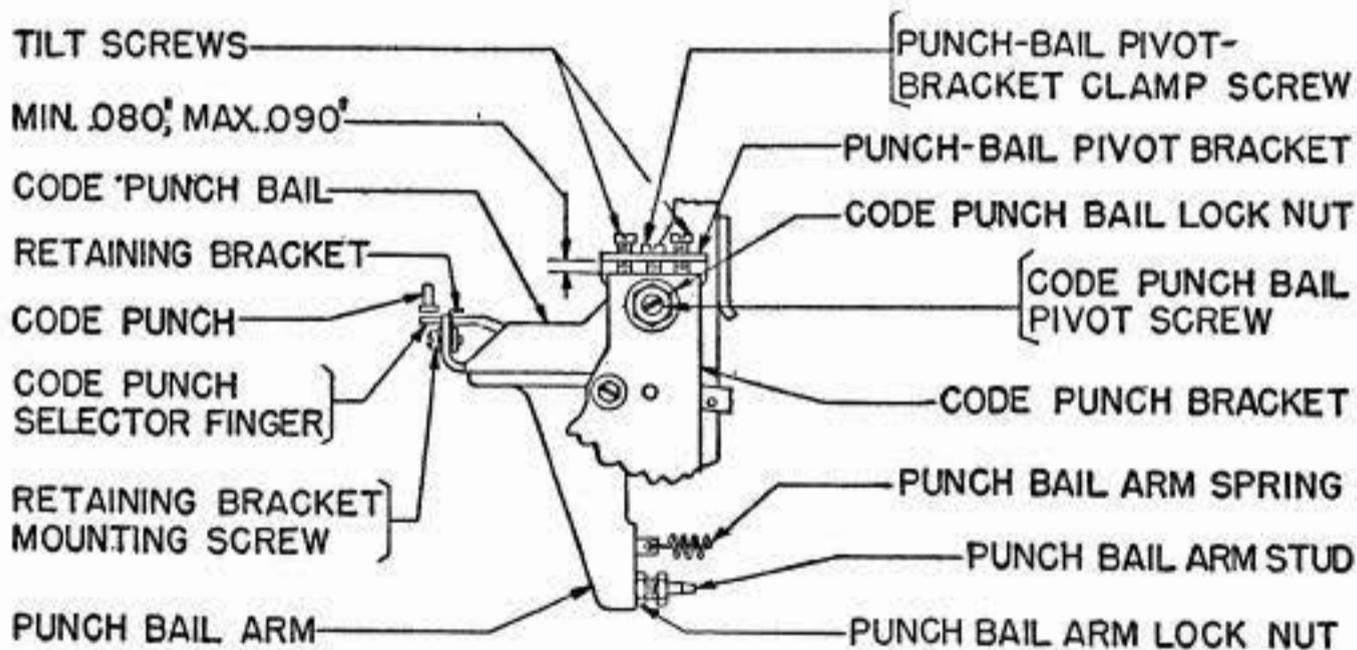

Fig. 36
The lower surface of the punch-bail-pivot bracket should be Min .080", Max .090" above and parallel to the surface of the code-punch bracket on which it mounts. **Fig. 36**
2.57 Selector-Fingers Retaining Bracket: The code-punch selector fingers should have Min. .006", Max. .015" up and down play in their slots in the retaining bracket. **Fig. 36**